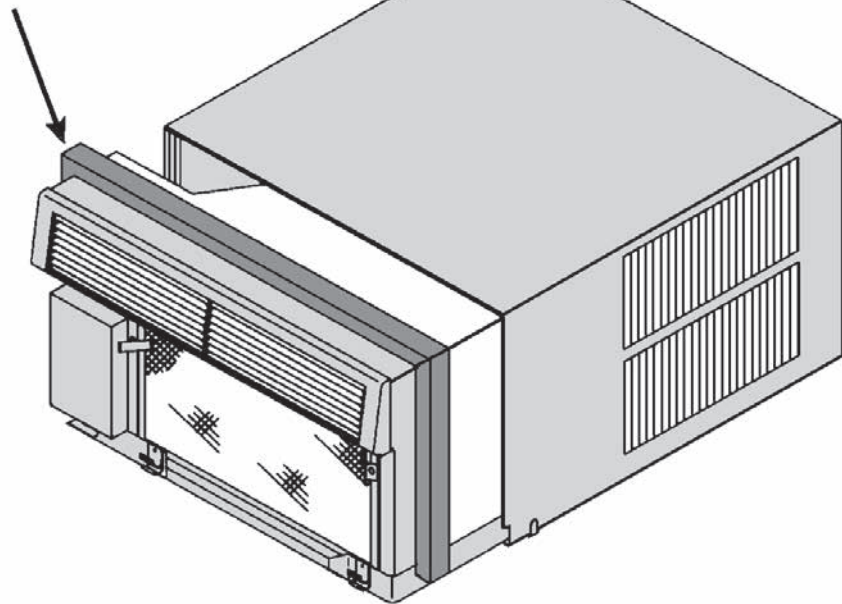

Figure C.7.1
STEP 7. Slide the chassis into the cabinet stopping approximately 3" from full insertion. Stuff the chassis seal gasket (Item #14) one inch deep between the chassis and the cabinet (See Figure C.7.1). Begin at either bottom corner and go up the side, across the top, and down the opposite side. Make sure that the gasket is behind the conduit connector (furthest from you). Push the chassis into the shell the remaining distance so that the plastic front shrouds the front edge of the shell. Fasten the junction box mounting foot to the shell with the sheet metal screw.